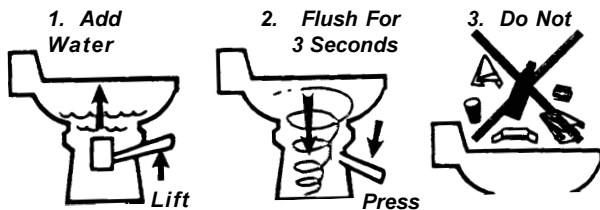

Figure J6: VacuFlush Operations
1. To add water to the toilet before using, raise flush lever until desired water level is reached. Generally, more water is required only when flushing solids. See Figure J6.